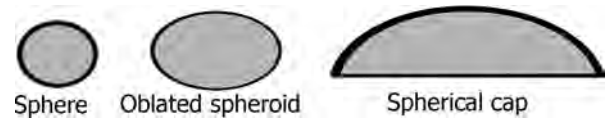

FIGURE 15.8 Shapes of bubbles.
- Figure 15.8 shows schematic pictures of bubbles in the liquid phase. Small bubbles of diameter $<1\ \text{mm}$